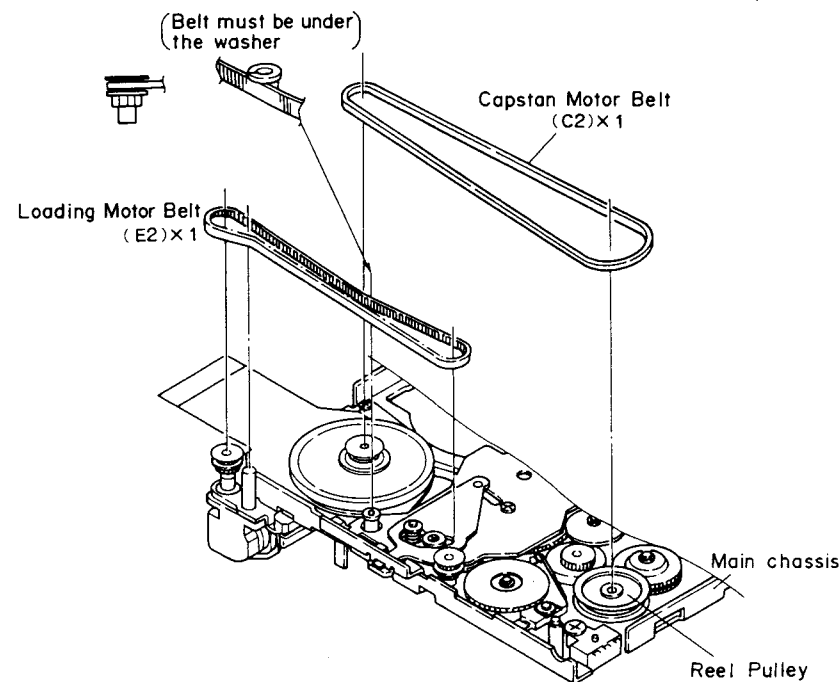

Figure 29-1
4. Remove the loading belt (E2) from the motor pulley. (Fig. 29-1)
6. Remove the capstan belt (C2). (Fig. 29-1)
AND LOADING BELT (Fig. 29-1, 2)